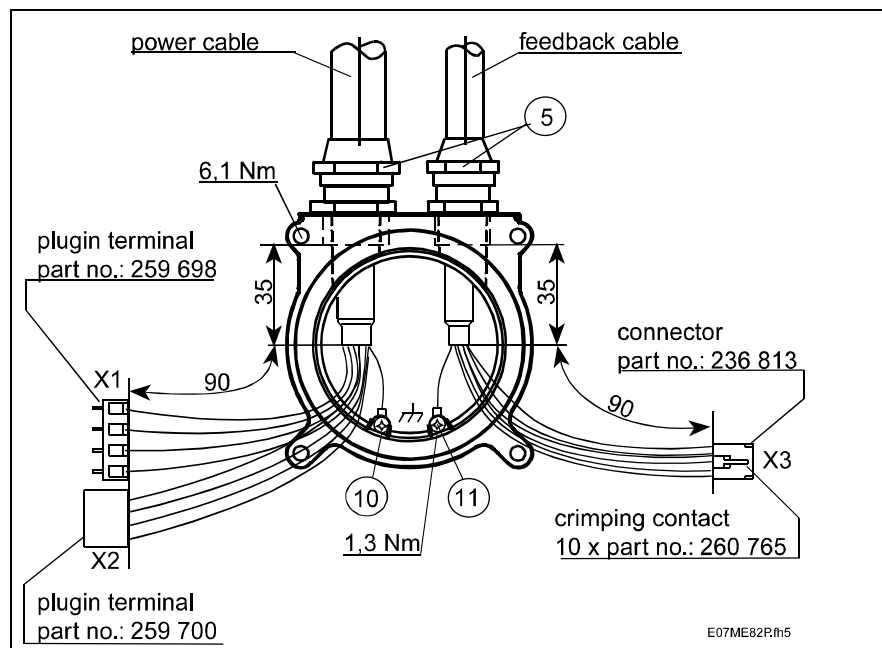

Fig. 11-4: Feeding in power and feedback cables of MKE 096
- ⇒ Pull cables back to the point where the shrink sleeve extends into the interior of the terminal box starting from the end of the screwed joint for a length of about 35 mm (up to about the middle of the terminal box lid) (see Fig. 11-4: Feeding in power and feedback cables of MKE 096).
- ⇒ Screw down cap nut (5) onto screwed joint (2) with a tightening torque of about 15 Nm. This torque is achieved if the cable screwed joint is manually tightened and then turned twice using a suitable tool.